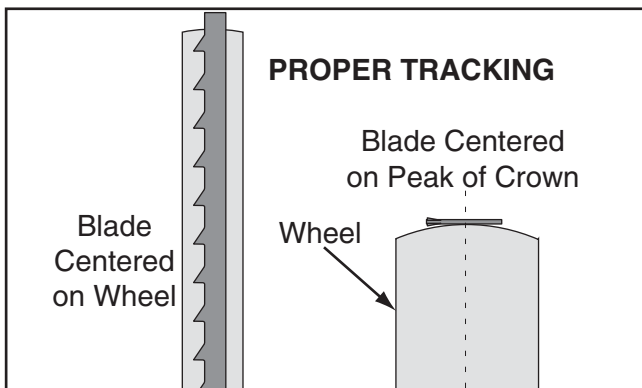

Figure 21. Blade centered on the crown of the wheel.
Bandsaw wheels are either flat or crowned and both shapes track differently. The G0555LX has crowned wheels. As the wheels spin the blade naturally tracks to the highest point of the crown to the center of the wheel (see **Figure 21**).
6. Rotate the upper wheel by hand several times and watch how the blade rides on the wheel crown (see **Figure 21** on **Page 19** for an illustration of this concept).